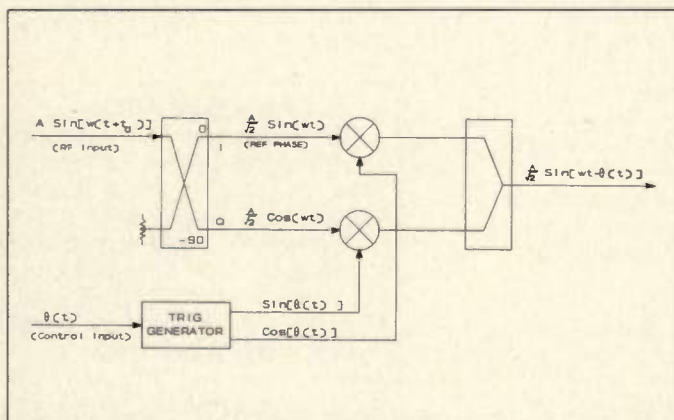

Figure 1. Basic components of an ideal vector modulator.
The ideal device would provide predictable, unambiguous phase shift of between  $0^\circ$  and  $360^\circ$  via an electrical control signal. In addition, the output amplitude should remain constant, independent of the phase shift. Figure 1 is the block diagram of a device theoretically capable of achieving these goals.
Each individual component shown in Figure 1 makes some contribution to the total amplitude and phase error of the output signal. The trigonometric identity in equation 7 may be used to analyze the extent of these contributions. In words, two quadrature RF signals are scaled as the sine and cosine of the desired phase shift angle, then vector summed. Since we are using phasor analysis, it is natural to separate the total vector modulator output error into two basic categories, scaling (amplitude) inaccuracies and quadrature phase error. We will define scaling error as the cumulative effect of multiplier inaccuracy, lack of trigonometric conformance of the sine and cosine control signals, and any amplitude imbalance from the 90° divider or in-phase combin-
**Effect of Scaling Error** — In principle, the scaling factors of both quadrature RF phasors shown in Figure 2 will vector-sum to a constant amplitude. Each of the major components shown in Figure 1, however, can potentially affect the amplitude of one or both RF signals. The scale factors for each of the phasors is shown in Figure 2: